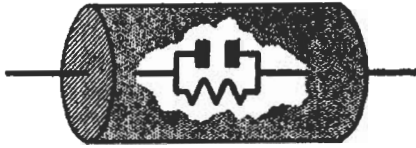

FIG. 18. A practical condenser acts like a perfect condenser in parallel with a high resistance.
► Where the leakage is important, we can take leakage current into account by considering a practical condenser to be a perfect condenser with a high resistance shunted across it, as shown in the cutaway section in Fig. 18. This way of picturing a practical condenser is often very useful.